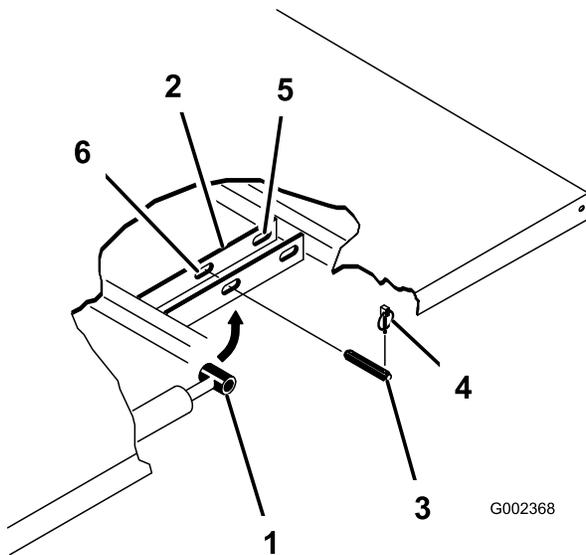

Figure 3
4. Remove the lynch pins from the outer ends of the cylinder rod-clevis pins (Figure 3).